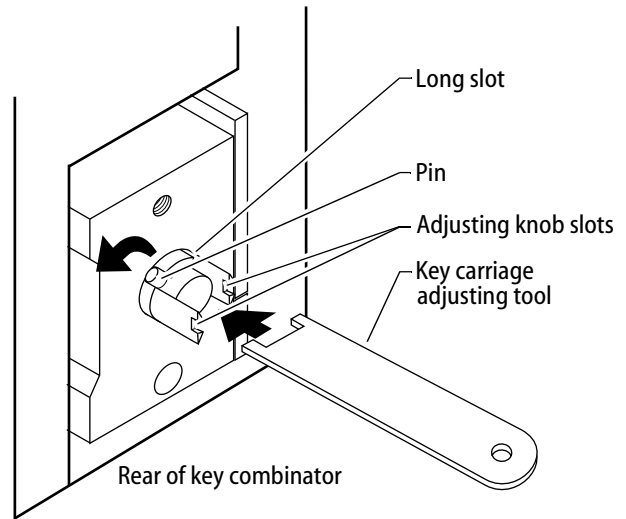

Figure 3 — Changing the key carriage for large and standard bow keys.
- 1 From the rear of the key combinator, insert the *key carriage adjusting tool* into the *adjusting knob slots*. See Figure 3.
- 1 From the rear of the key combinator, insert the key carriage adjusting tool into the adjusting knob slots. See Figure 3.